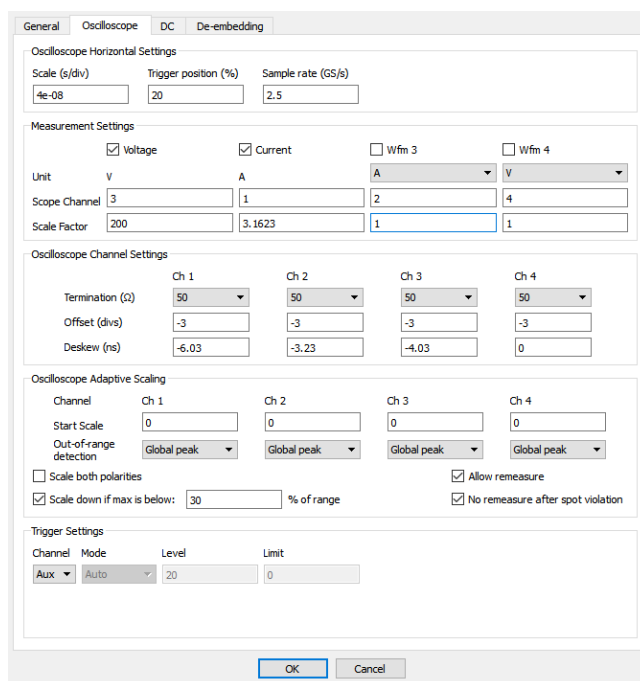

Figure 2: Settings dialog / Oscilloscope tab (shown for 2-pin setup)
7. Check the *Oscilloscope* tab and define correct scaling factors and oscilloscope channel assignment (Fig. 2).